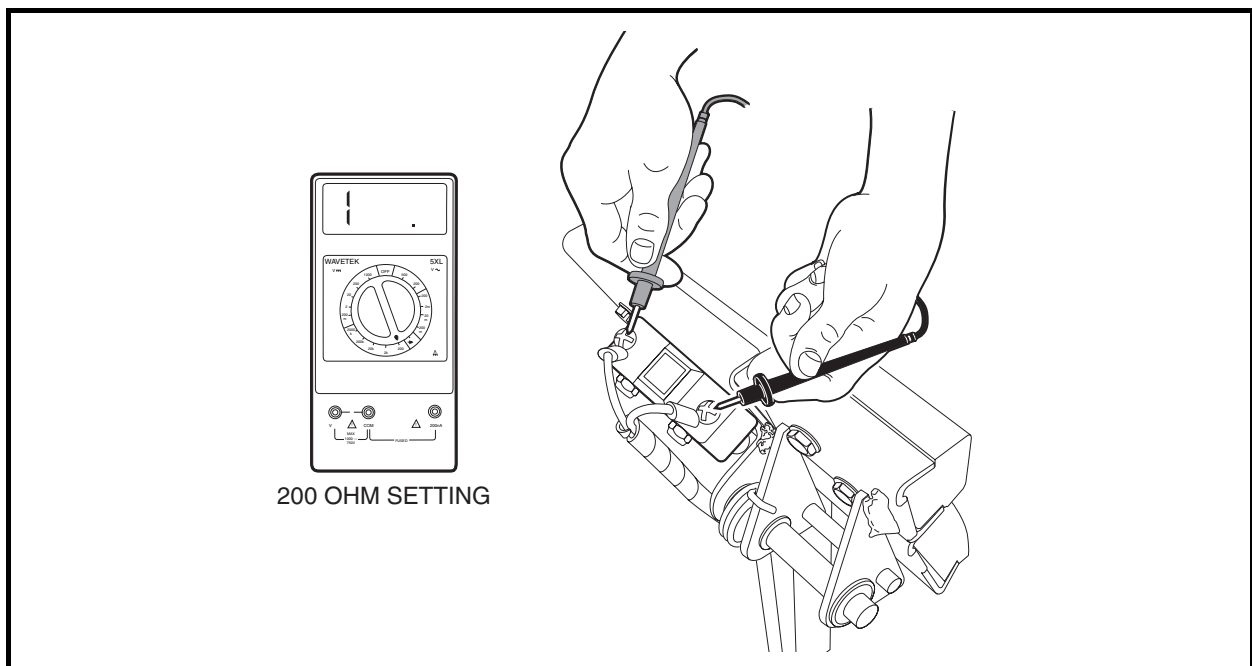

Figure 11-43 Park Brake Pedal Limit Switch Test – Park Brake Not Engaged
3. Set a multimeter to 200 ohms and place alligator clips on the multimeter probes. Place the probes onto the two terminal screws on the limit switch located on the brake pedal (**Figure 11-43, Page 11-41**).
4. With the park brake pedal released, the multimeter should indicate no continuity (**Figure 11-43, Page 11-41**).